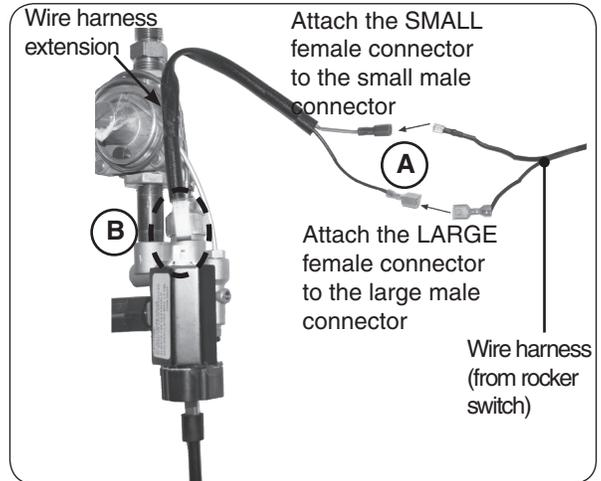

Fig. 2-2 Connect to 17 valve
1. Connect the two terminals on the wire harness to the two terminals on the wire harness extension (see Fig. 2-2,A).
2. Attach the male connector from the wire harness extension to the female connector located on the valve (see Fig. 2-2,B).